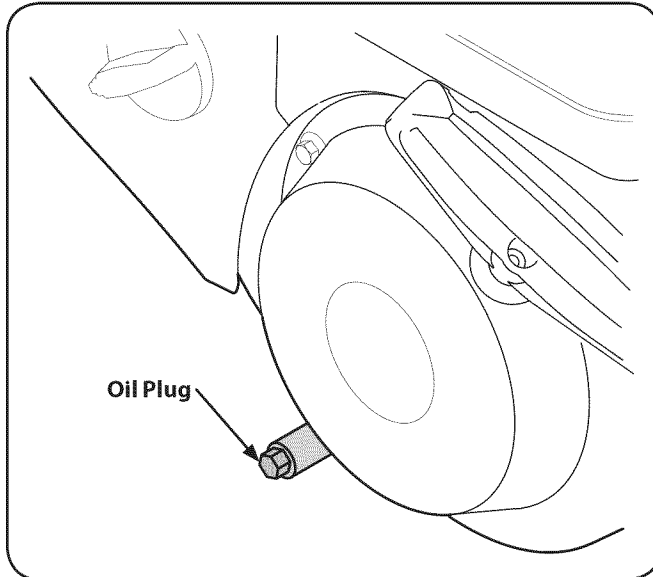

Figure 7-2
3. Remove the oil drain plug, Figure 7-2.